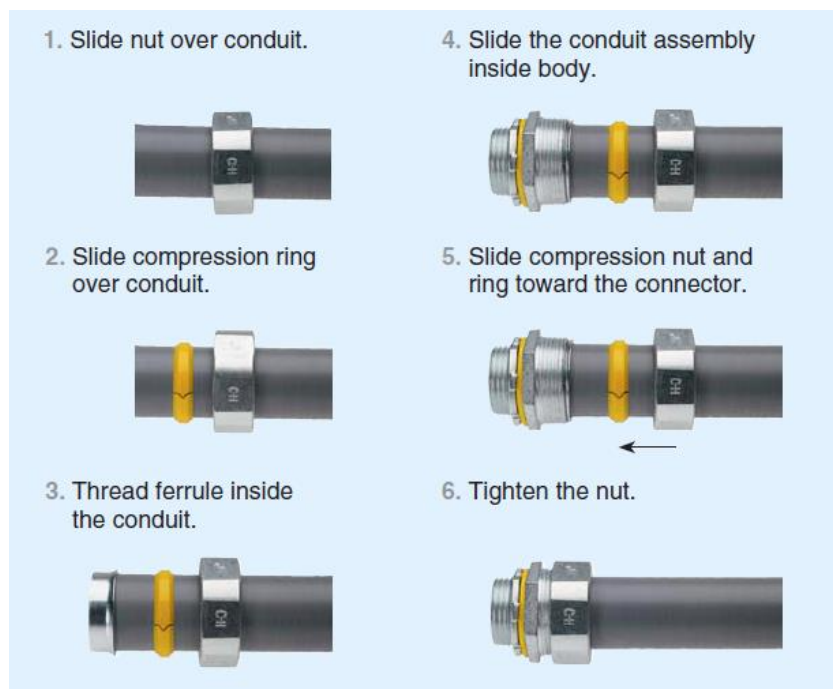

Figure 3-1. Liquid Tight Fitting Installation
3. Install Liquid Tight conduit fittings (see Figure 3-1).